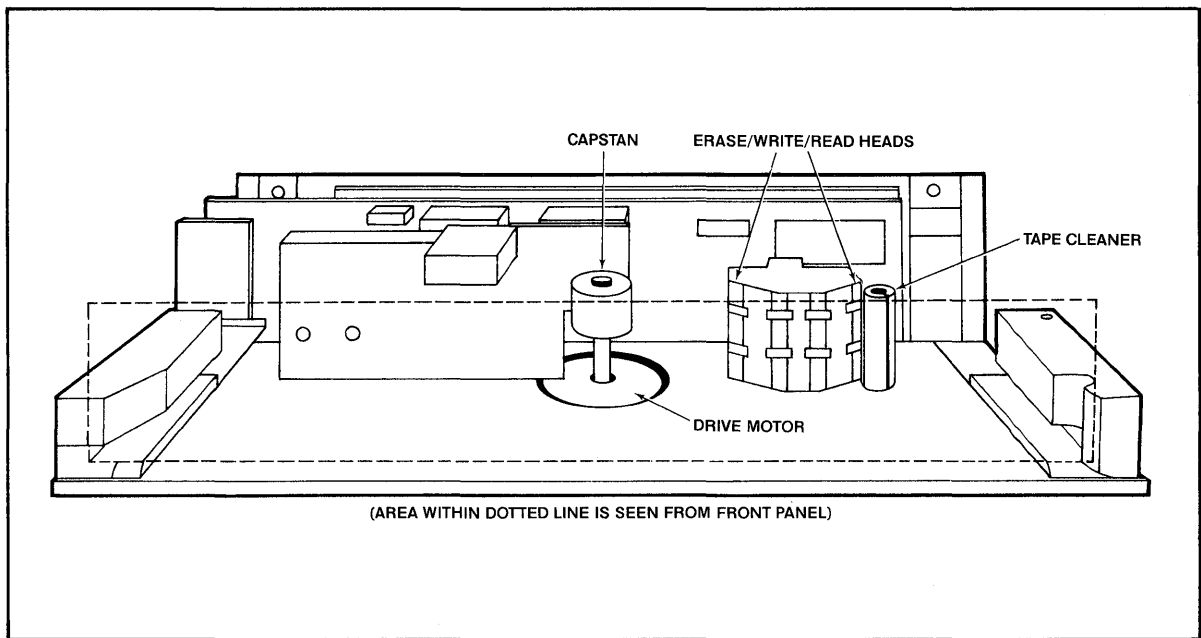

Figure 6-1 Tape Drive Components Requiring Cleaning
Refer to Figure 6-1 for the location of these components when cleaning and maintaining the tape drive.
3. Locate the erase/read/write heads (refer to Figure 6-1).
1. Insert a folded sheet of paper in the bottom of the cleaning slot of the tape cleaner (Figure 6-1).
DO NOT ALLOW CLEANING SOLVENTS TO CONTAMINATE THE DRIVE MOTOR (shown in Figure 6-1).